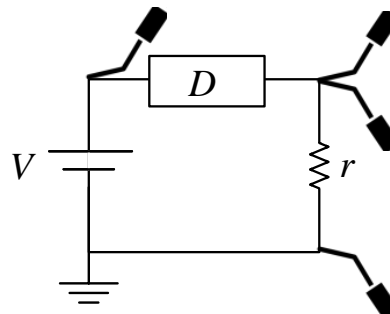

Figure 2: A test circuit for extracting the characteristic curve of a resistive element using multi-meter.
**Build the circuit shown in Fig. 2 on a breadboard, where  $r = 1 \text{ k}\Omega$  denotes a resistor allowing to measure the current indirectly.**
(b) Can the characteristic curve be extracted using the circuit of Fig. 2 and an oscilloscope?